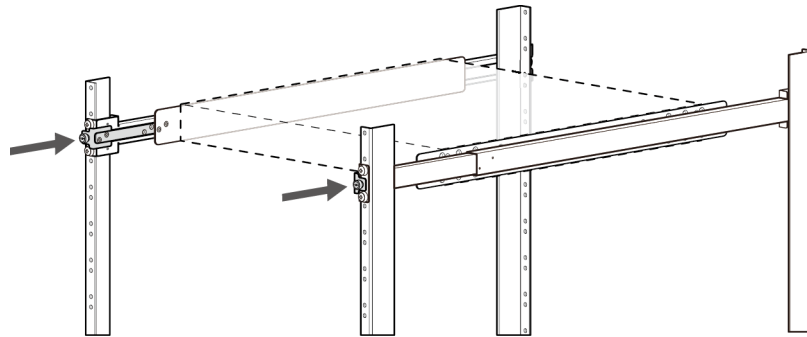

Figure 13. Check Inner Rail Position
5. Test the inner rail position: With the adjustment bracket attached to the inner rail, slide the inner rail through the outer rail until it reaches the outer rail stopper and check that the inner rail is in the correct position for where you want the switch to be positioned (see Figure 13).